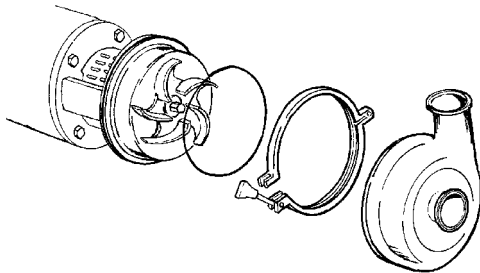

Figure 63 - Install O-ring, Casing And Clamp
- B. Set Screw (2) E. Cap Screws
15. Install O-ring and casing; clamp in place. (Figure 63).